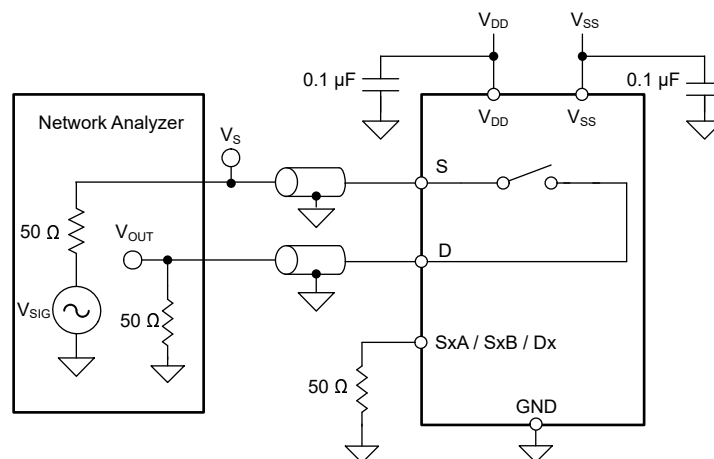

図 6-10. Off Isolation Measurement Setup
Off isolation is defined as the ratio of the signal at the drain pin (D) of the device when a signal is applied to the source pin (Sx) of an off-channel. 図 6-10 shows the setup used to measure, and the equation used to calculate off isolation.